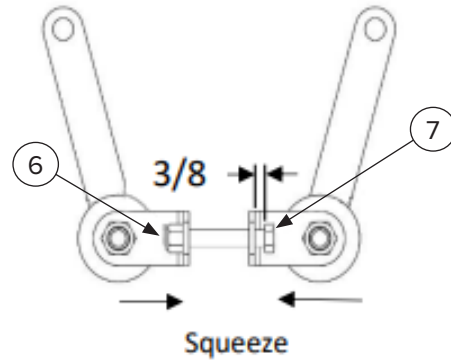

Figure 12
4. Adjust nut (Item 6) and bolt (Item 7) [Figure 12].